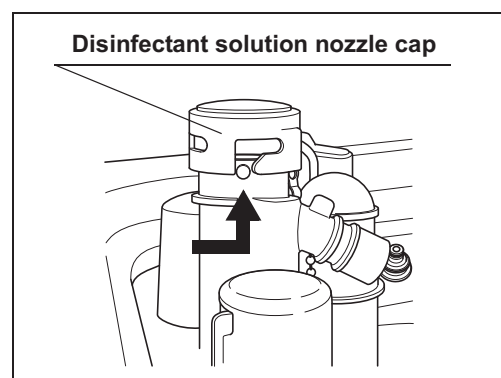

Figure 4.194
- 6 Turn the disinfectant solution nozzle cap in the direction shown to remove, refer to the Figure 4.194.